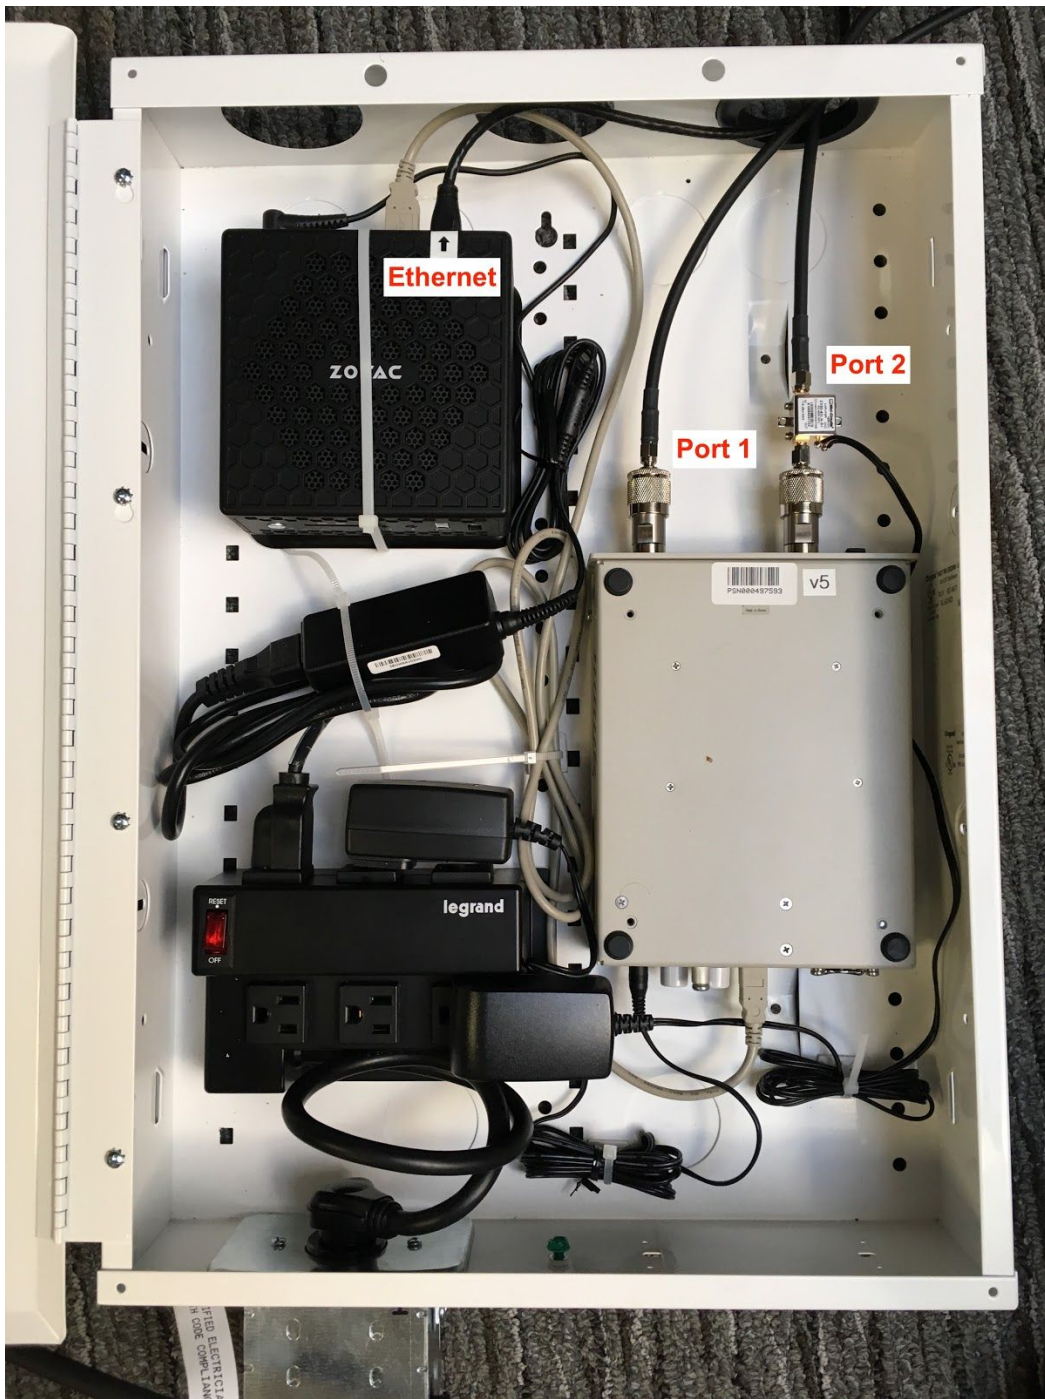

Figure 6: Service Box Cable Connections
6. Attach cable 1 to “Port 1” shown in figure 6.
7. Attached cable 2 to “Port 2” shown in figure 6.
9. Connect ethernet cable to the “Ethernet” port shown in figure 6